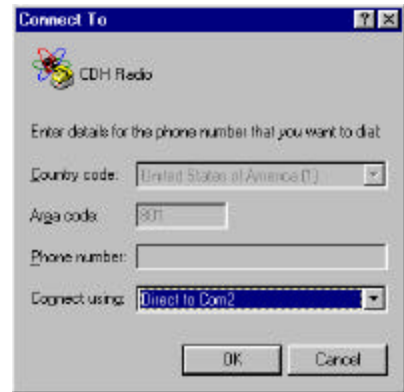

Figure 2 –Connect To Dialogue Box
- c. In the **Connect To** dialogue box on each computer, select *Connect using: Direct to Com1* or *Direct to Com2* to correspond with the comm port used on the respective computers (see figure 2) . Click *OK*.